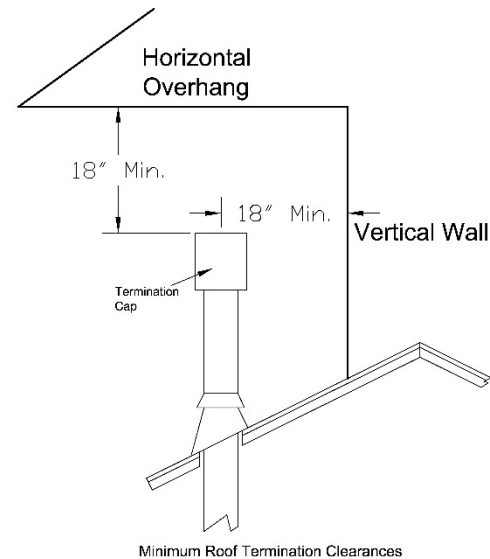

Figure 10 - Termination Cap clearances
- 🔥 All termination caps must be no less than 18" (457mm) horizontally from any roof or vertical surface. See Figure 10
Centerlines shown are approximate. Ensure you dry fit your venting and take a measurement. Pipe dimensions will vary by manufacturer and supplier. These dimensions are using typical Simpson Dura-Vent GS components. See installation instructions on this page and Figure 10.